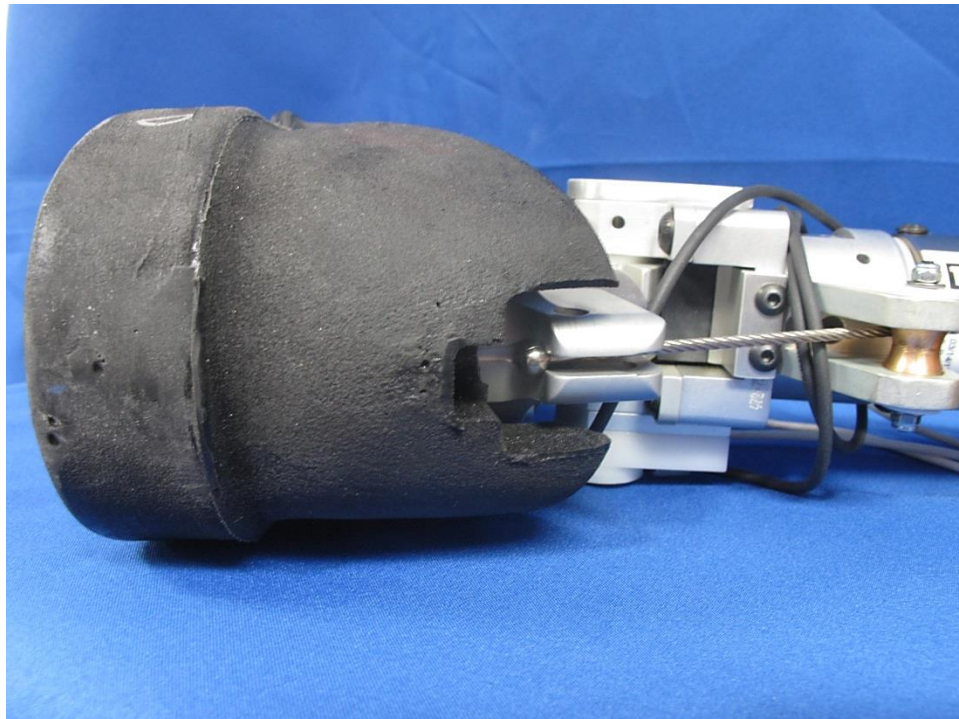

Figure 12-62. Attach ball end of Achilles cable to lower Achilles mounting post
- 12.2.2.42 Attach the ball end of the Achilles cable assembly to the lower Achilles mounting post by sliding the cable section above the ball into the slot on the back of the mounting post (Figure 12-62).